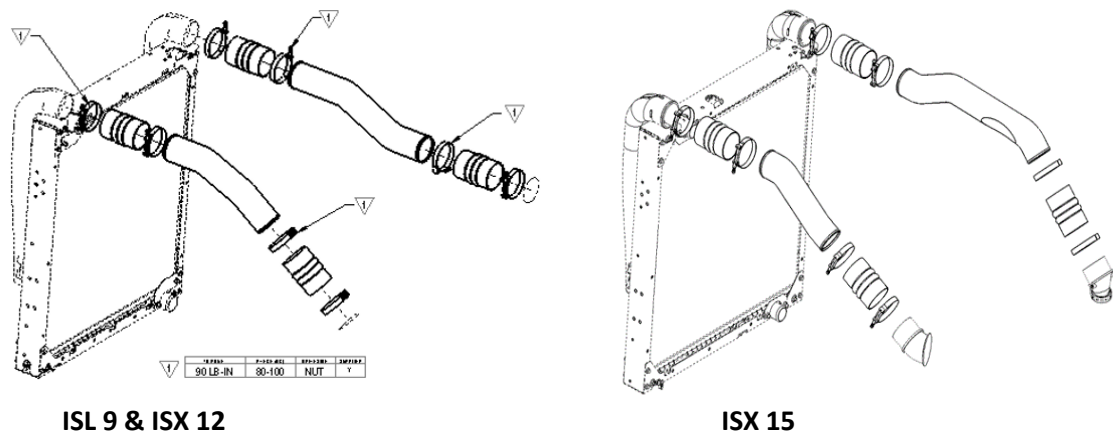

FIG 3-1
2. Remove charge air cooler pipes. (*See FIG 3-1*)